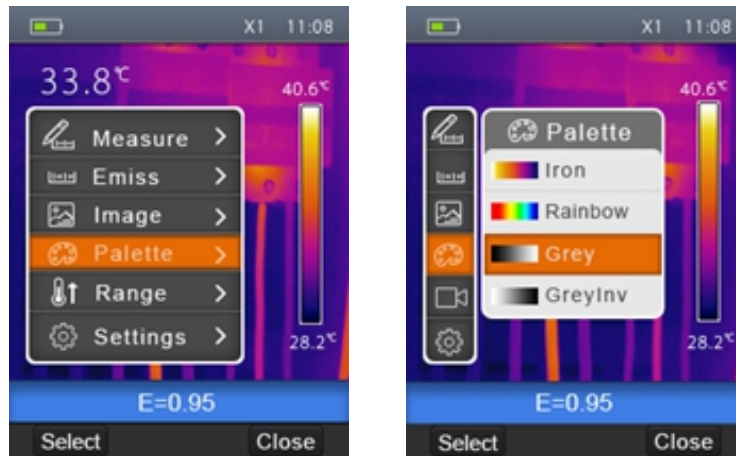

Fig. 21: Setting the colour palette
1. Select the item “Palette” using the keys \oplus or \ominus and press the key $\left[\right]$. The screen Fig. 21 – Right side is shown on the display